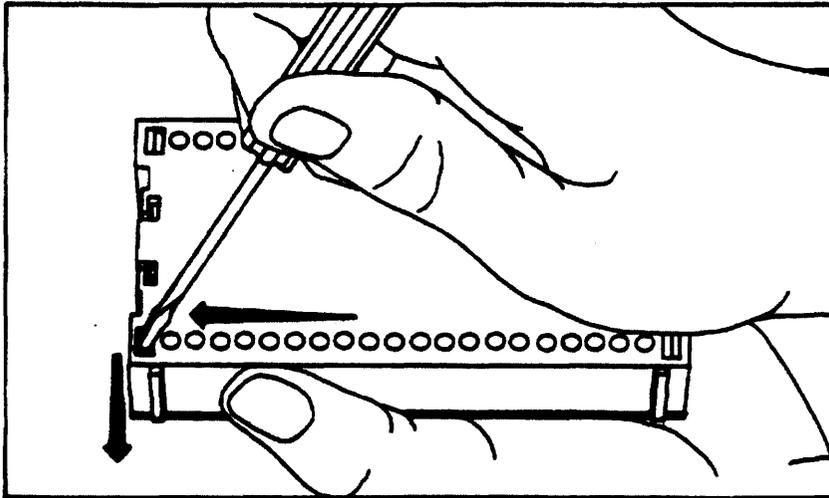

Figure 6-42. Removing the ROM Assembly Cover
2. A tab at each corner of the bottom of the ROM case holds the cover on. To release the cover, depress each tab in turn with a small flat-bladed screwdriver while pulling on the cover (see figure 6-42). Once the four tabs are released, remove the cover (making sure the black handles are out).